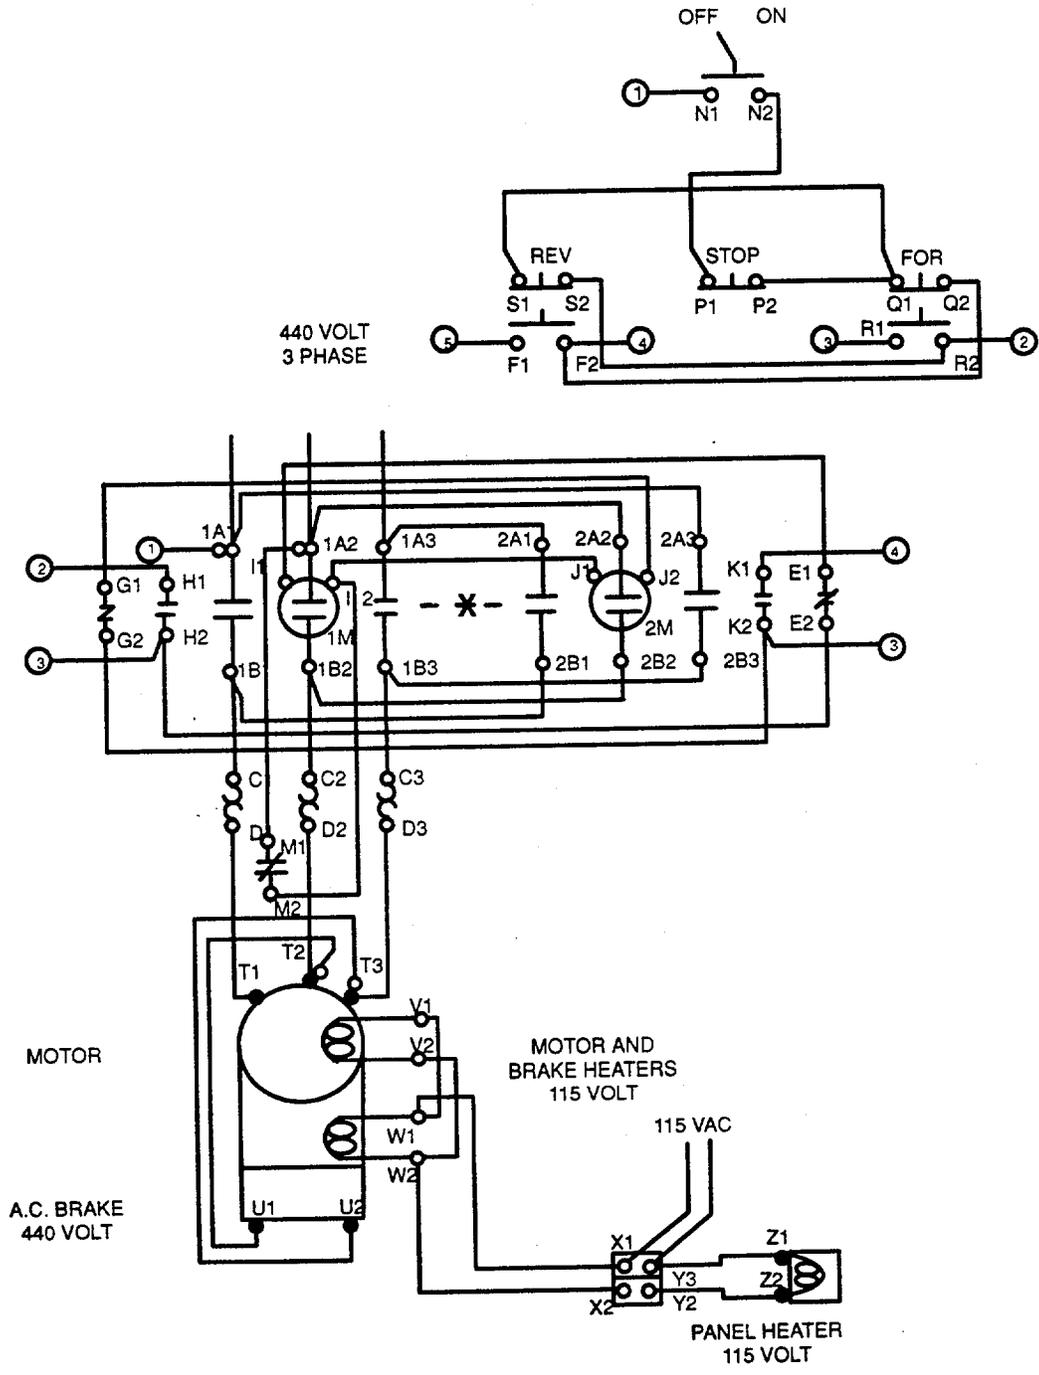

Figure 2-10. Anchor Winch Control Panel
- a. With switchboard circuit breaker P10 or P11 and power panel 3 circuit breaker 11P13 closed (ON), check electric winch input line voltage. Check this voltage at main contactor across terminal pairs 1A1 and 1A2, 1A1 and 1A3, and 1A2 and 1A3 for 440 Vac (see Figure 2-10). If voltage across any terminal pair is not 440 Vac, go to step b. If voltage across all terminal pairs is 440 Vac, go to step c.
- d. With forward button depressed, check voltage of magnetic coil of contactor (1M) across points L1 and L2 for 440 Vac. If voltage is not 440 Vac, go to step (1). If voltage is 440 Vac, replace magnetic starter.
- (1) Open (OFF) switchboard circuit breaker P10 or P11 and make continuity checks as follows.
- (1) Install control panel using attaching hardware.
- (2) Connect wiring.
- (3) Close (ON) switchboard circuit breaker P10 or P11 and power panel 3 circuit breaker 11P13.
- (4) Check that control panel operates normally.
2-19.3.6 Anchor winch heater test and repair. With circuit breaker 11P13 (11P13 provides power to motor, brake and panel heaters) at power panel no. 3 closed (ON), check voltage at inputs to heater terminal board across points X1 and X2 for 115 Vac (see Figure 2-10). If voltage is not 115 Vac, go to step (3). If voltage is 115 Vac, go to step c.